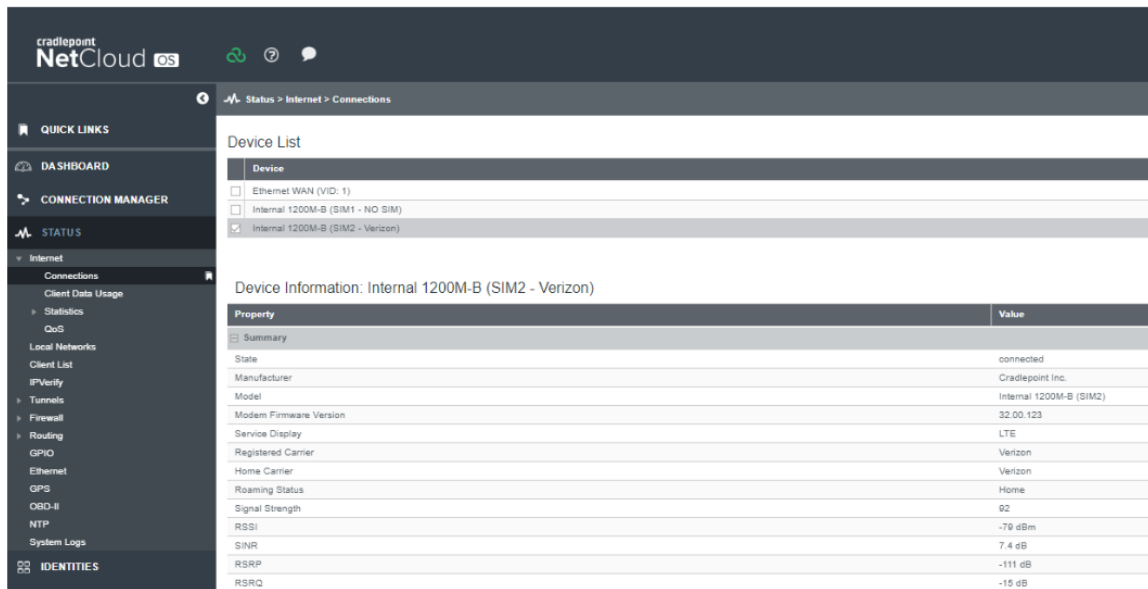

Figure 24: Select the device with a cellular SIM in Cradlepoint NetCloud.
- B. In the Device List table, select the option with a cellular SIM, as shown in Figure 24.